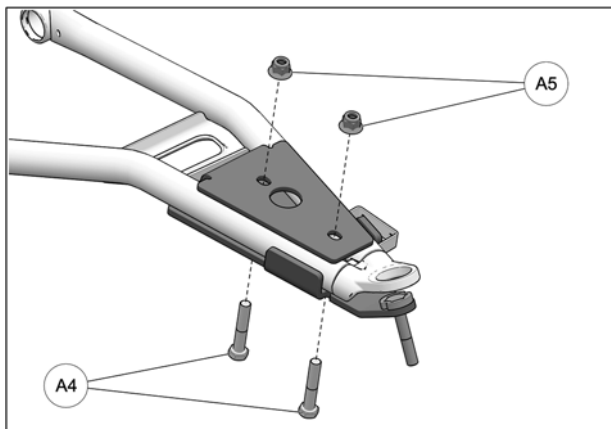

Fig. 16
- Insert the M10x55mm bolts (**A4**) from the bottom and secure the two parts together with the nuts (**A5**) provided. Tighten assembly to 50 N•m [37 lb•ft] of torque. Refer to Fig. 16